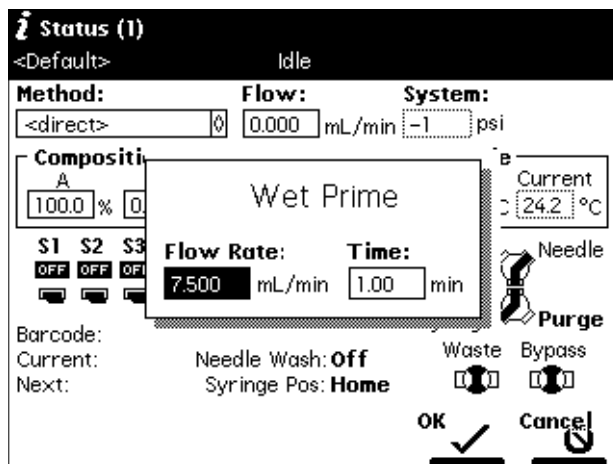

Figure 2-5 Wet Prime Dialog Box
4. Select **Wet Prime**, then press **Enter**. The Wet Prime dialog box appears (Figure 2-5).
5. Select **Wet Prime**, then press **Enter**. The Wet Prime dialog box appears (Figure 2-5).